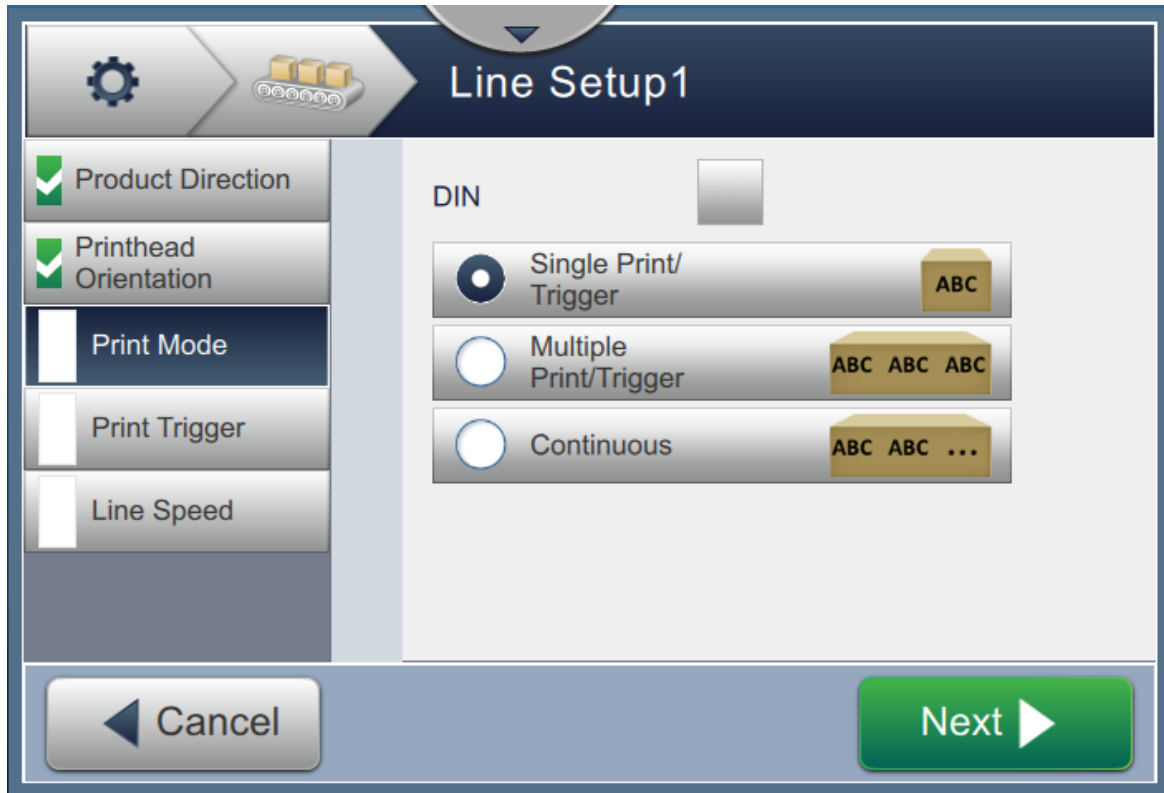

Figure 6-29: Line Setup - Print Mode
1. Touch the *Print Mode* on the Line Setup Setting screen as shown in Figure 6-29.
1. Select the *Multiple* option as shown in Figure 6-29. Touch the button.
1. Select the *Continuous* option as shown in Figure 6-29. Touch the  button.